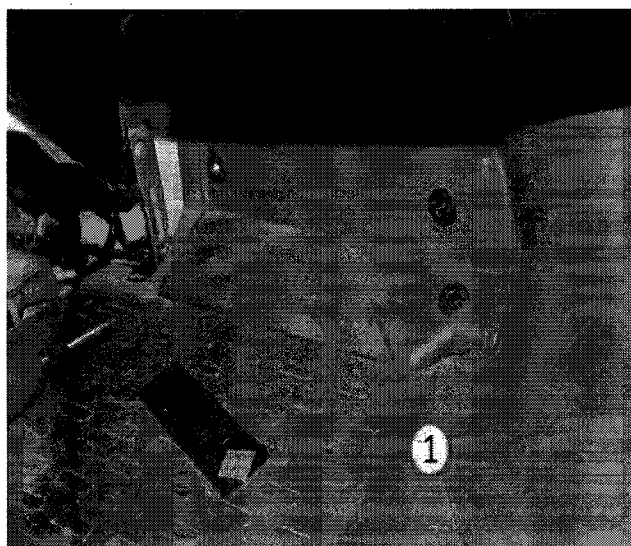

Fig. 18 Toe Kick Panel
25. Remove the screws securing the lower dash toe-kick cover located on the passenger side of the vehicle. Remove the toe-kick cover (See Figure 18).